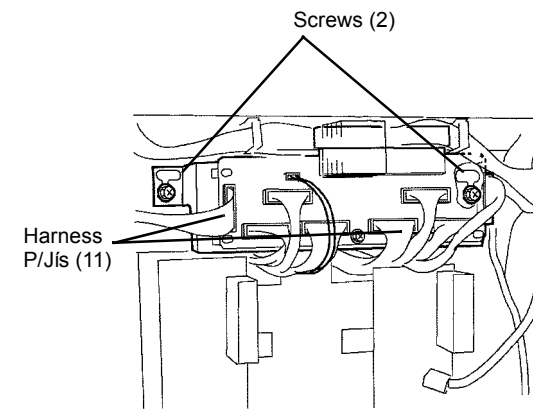

Figure 1 Removing Interface PWB
7. Remove Main PWB Interface PWB (Figure 1).
- a. Loosen Screws (2).
- b. Lift Main PWB Interface PWB until Harness P/JIs (11) can be disconnected.